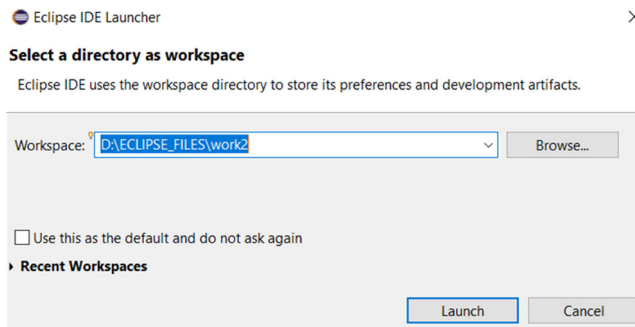

Figure 3.17 Give a name to your workspace
- Give a name to your Workspace (e.g. **Work2**) as shown in Figure 3.17